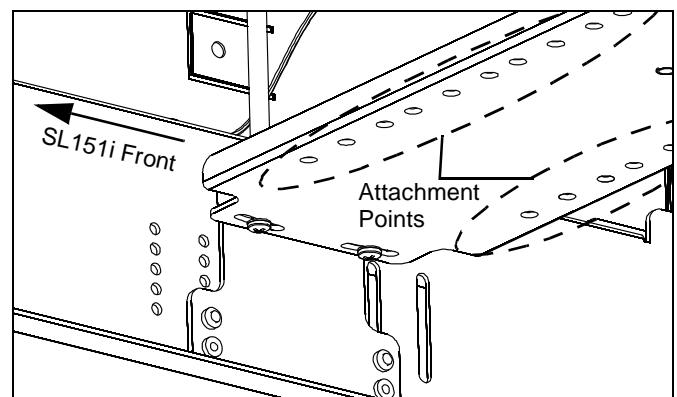

Figure 10
2. Attach the bracket with the projector to the SL151i, adjusting left or right by using the various attachment points in the SL151i. (See Figure 10)